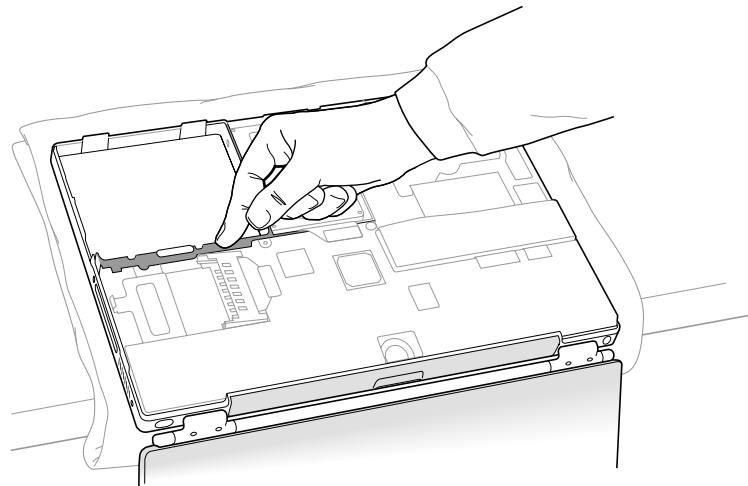

Figure 6
10. Touch the computer's inside framework (a dull gray conductive composite material) to discharge any static electricity, as shown (**Figure 6**).